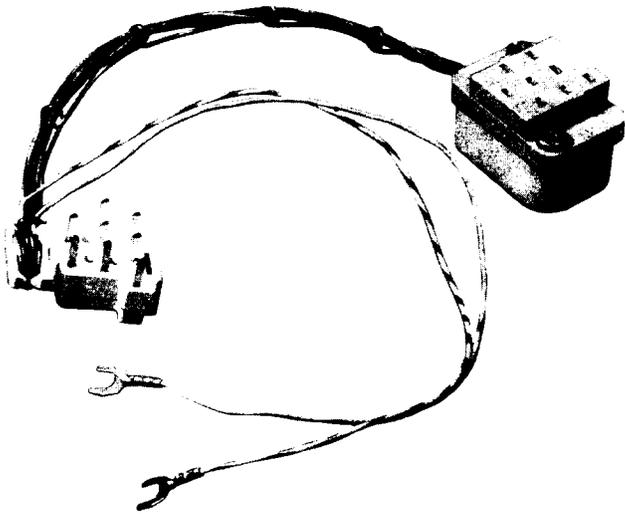

Fig. 11—810155501 Adapter
**2.19** The 635AD5C key module is equipped to provide four pickup keys, one cutoff key, and a hold key. The key module is used in the first module of the telephone set and has to be equipped with 2 contact strip assemblies 2.15(1)(c) and a piggy-back adapter 840155501 (Fig. 11) accommodates the slate 508-type mounting cord plug.